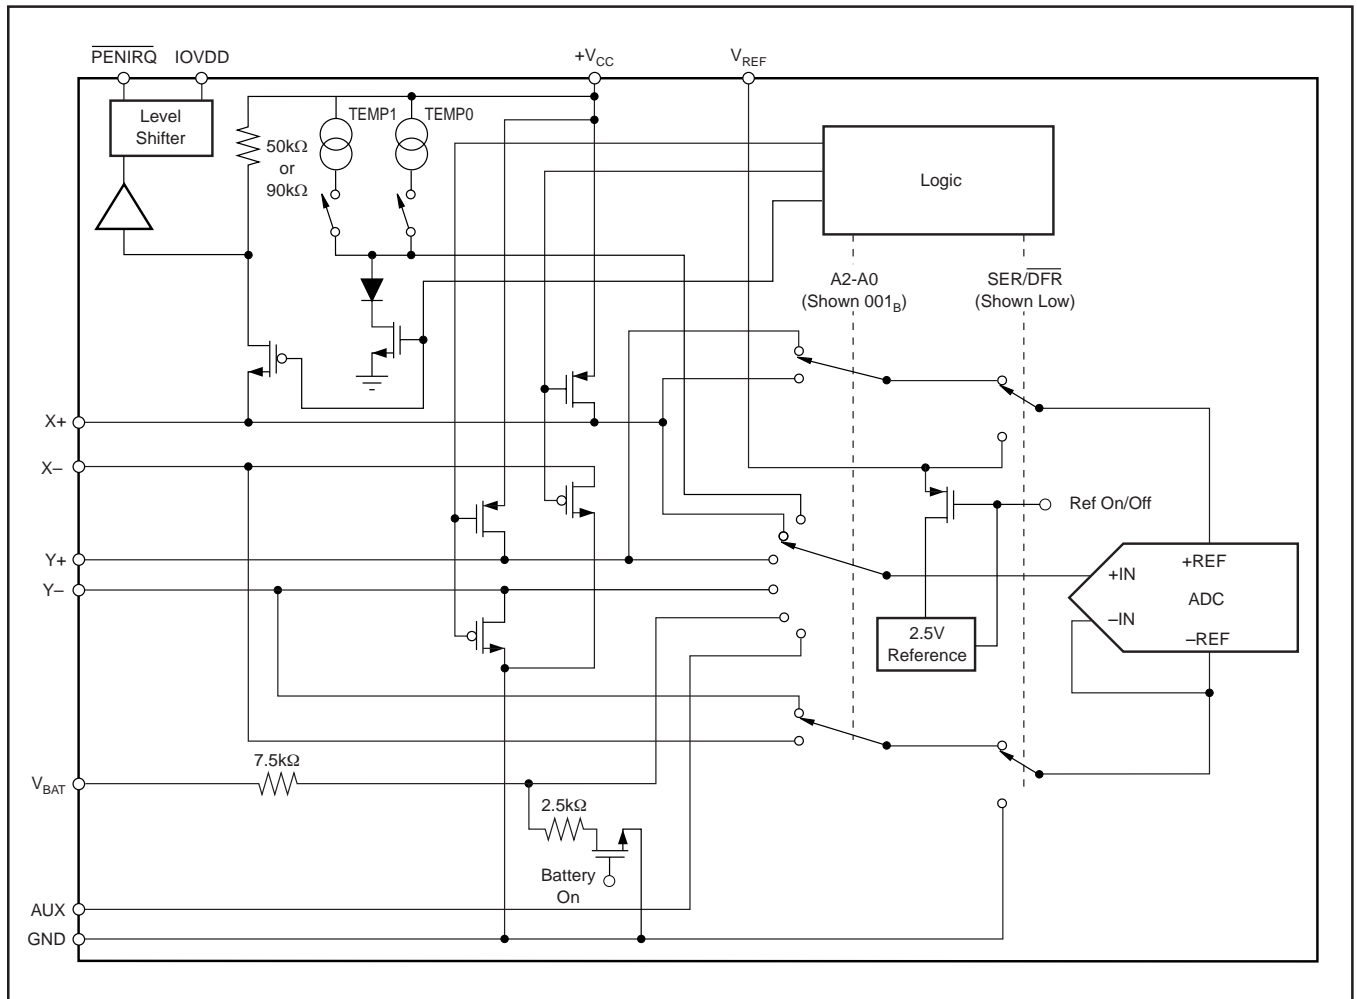

FIGURE 2. Simplified Diagram of Analog Input.
Figure 2 shows a block diagram of the input multiplexer on the TSC2046, the differential input of the ADC, and the differential reference of the converter. Table I and Table II show the relationship between the A2, A1, A0, and SER/DFR control bits and the configuration of the TSC2046. The control bits are provided serially via the DIN pin—see the Digital Interface section of this data sheet for more details.
When the converter enters the hold mode, the voltage difference between the +IN and –IN inputs (as shown in Figure 2) is captured on the internal capacitor array. The input current into the analog inputs depends on the conversion rate of the device. During the sample period, the source must charge the internal sampling capacitor (typically 25pF). After the capacitor has been fully charged, there is no further input current. The rate of charge transfer from the analog source to the converter is a function of conversion rate.
The voltage difference between +REF and -REF (see Figure 2) sets the analog input range. The TSC2046 operates with a reference in the range of 1V to +VCC. There are several critical items concerning the reference input and its wide voltage range. As the reference voltage is reduced, the analog voltage weight of each digital output code is also reduced. This is often referred to as the LSB (least significant bit) size and is equal to the reference voltage divided by 4096 in 12-bit mode. Any offset or gain error inherent in the ADC appears to increase, in terms of LSB size, as the reference voltage is reduced. For example, if the offset of a given converter is 2LSBs with a 2.5V reference, it is typically 5LSBs with a 1V reference. In each case, the actual offset of the device is the same, 1.22mV. With a lower reference voltage, more care must be taken to provide a clean layout including adequate bypassing, a clean (low-noise, low-ripple) power supply, a low-noise reference (if an external reference is used), and a low-noise input signal.
**Addressing**—The next three bits (A2, A1, and A0) select the active input channel(s) of the input multiplexer (see Tables I, II, and Figure 2), touch screen drivers, and the reference inputs.
**SER/DFR**—The SER/DFR bit controls the reference mode, either single-ended (high) or differential (low). The differential mode is also referred to as the ratiometric conversion mode and is preferred for X-Position, Y-Position, and Pressure-Touch measurements for optimum performance. The reference is derived from the voltage at the switch drivers, which is almost the same as the voltage to the touch screen. In this case, a reference voltage is not needed as the reference voltage to the ADC is the voltage across the touch screen. In the single-ended mode, the converter reference voltage is always the difference between the  $V_{REF}$  and GND pins (see Tables I and II, and Figures 2 through 5 for further information).